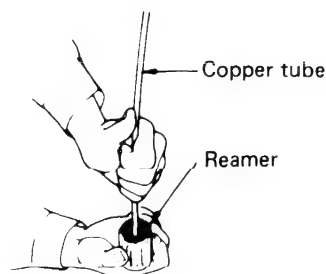

Fig. 23
**NOTE** : When reaming, hold the copper tube end downward and be sure that no copper scraps fall into the tube. Fig. 23